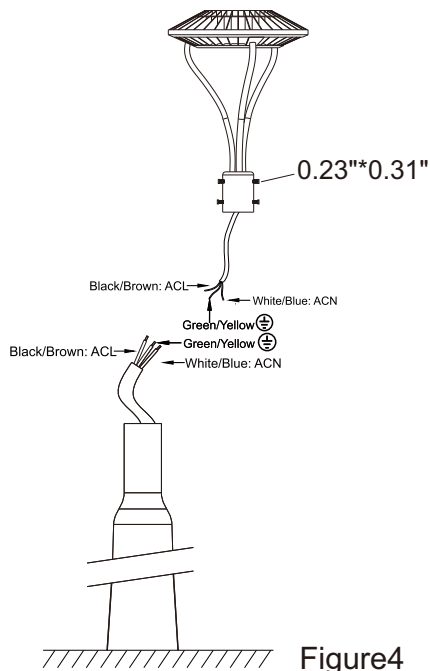

Figure 4
4. Loosen the handle screw and connect the corresponding LNG wire to make it waterproof (Figure 4)